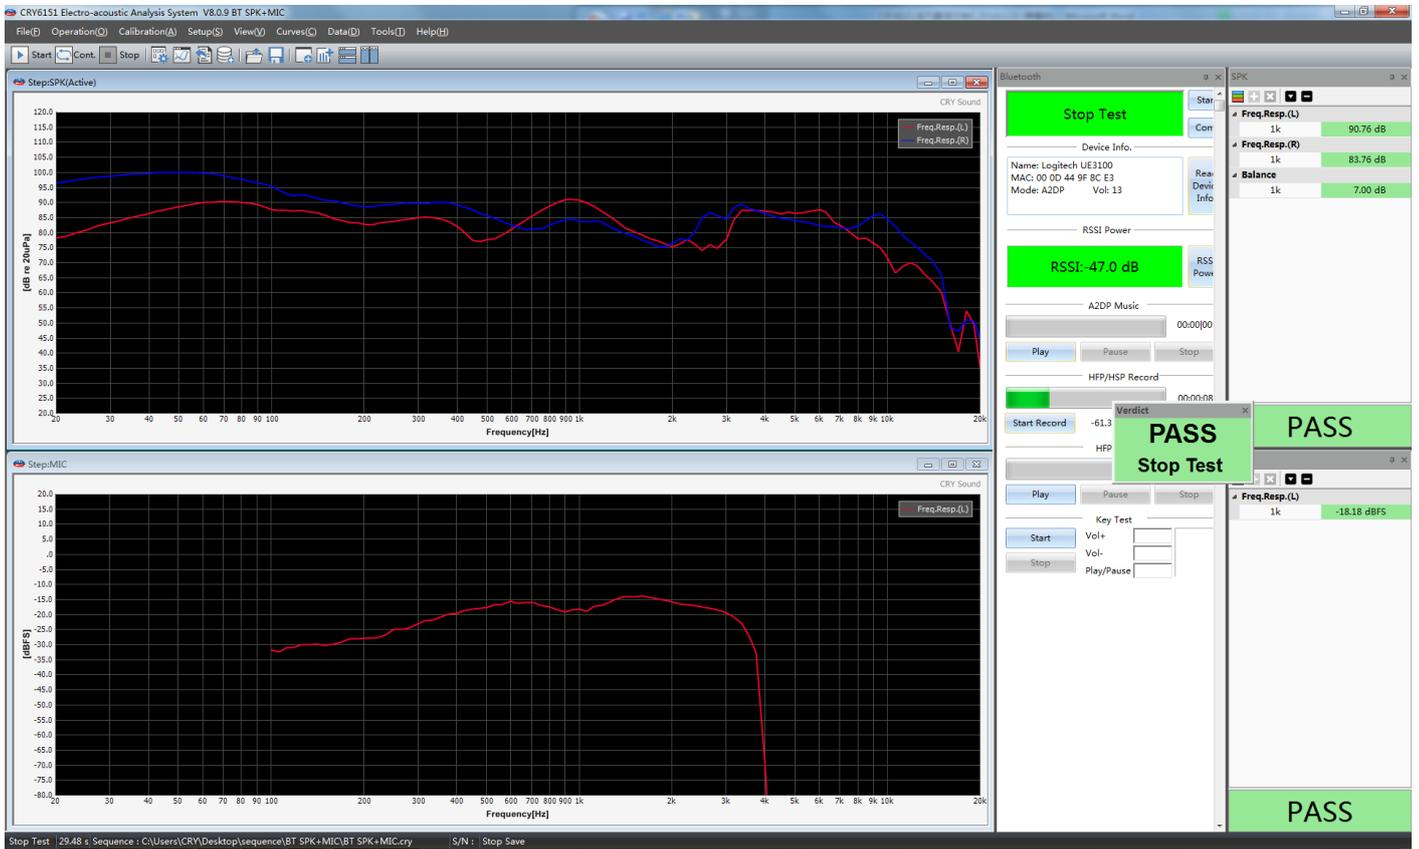

Figure 5.59 The Effect of Bluetooth Stereo Headphone Solution Test
- ✓ Click “View” → “Tile Curve Windows”, display two curve interfaces simultaneously and tile them in the curve display window, as shown in Figure 5.59.
By now, all exemplary setup contents have been completed. Click “Start” to start testing. The test interface is shown in Figure 5.59.